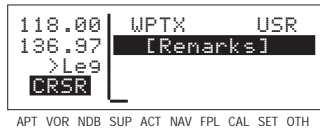

Figure 4-182
1. Turn on the cursor and move it until the cursor fills line 2 of the screen (figure 4-182).